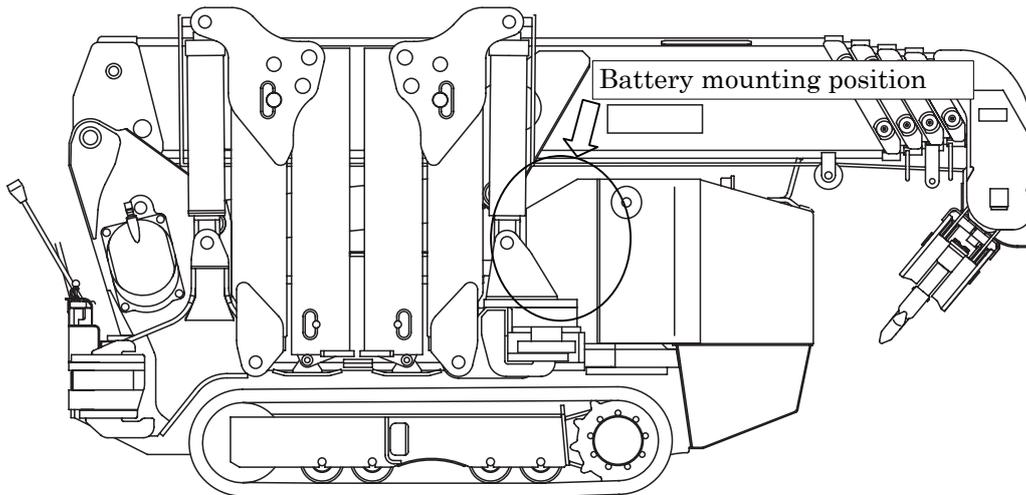

Fig.5 Battery mounting position
(1) Battery is installed on the battery mount as illustrated in the Fig. 5